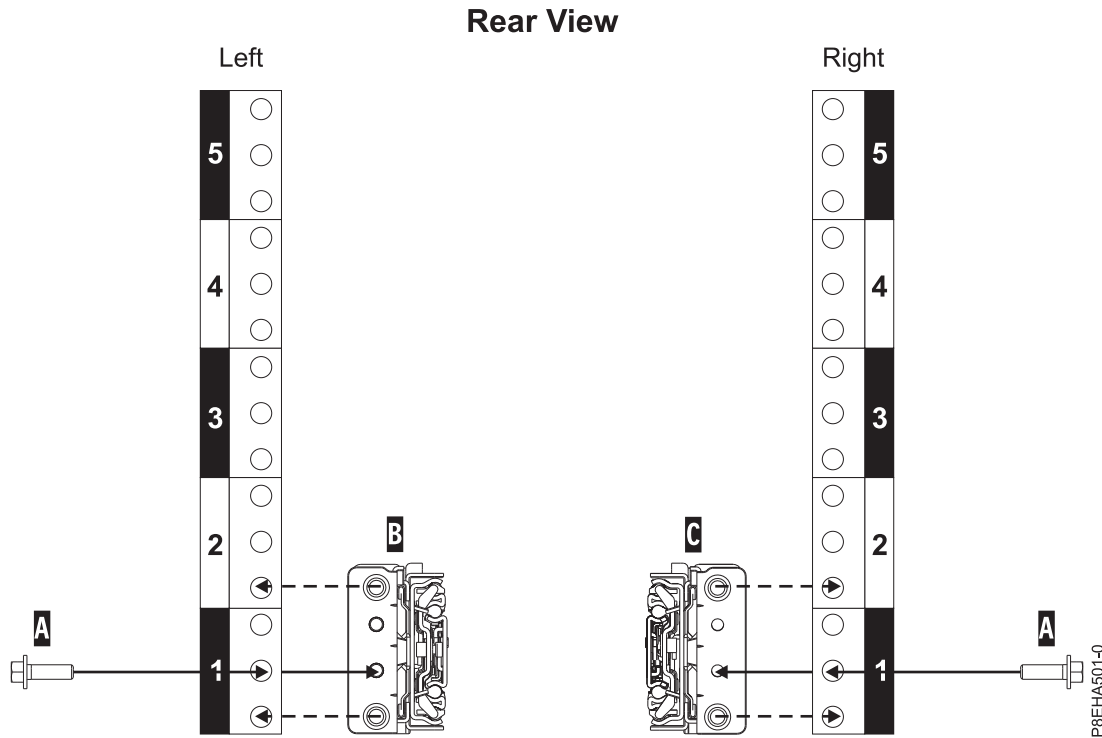

Figure 5. Attaching the slide rails at the rear of the rack
12. Secure the left slide rail (B) and right slide rail (C) with a M5x16mm screw (A) as shown in Figure 5. Insert and tighten each screw into the threaded slide flange hole, located in the middle hole of the lowest EIA rack unit.